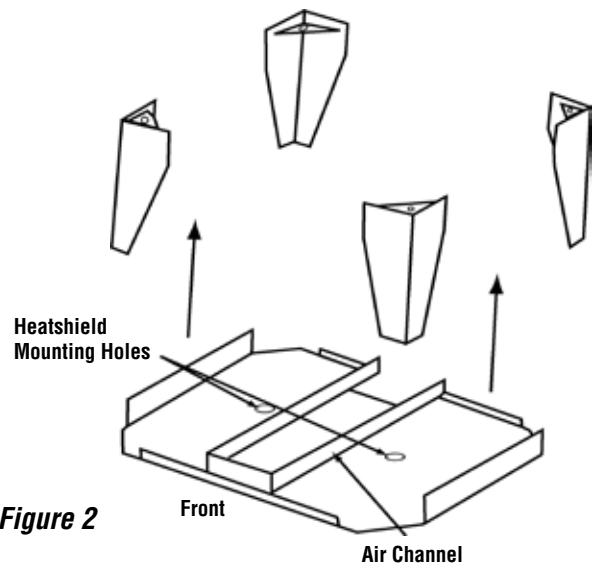

Figure 2
- Use the two bolts and washers provided with the heatshield kit to mount the heatshield as shown in **Figure 2**.